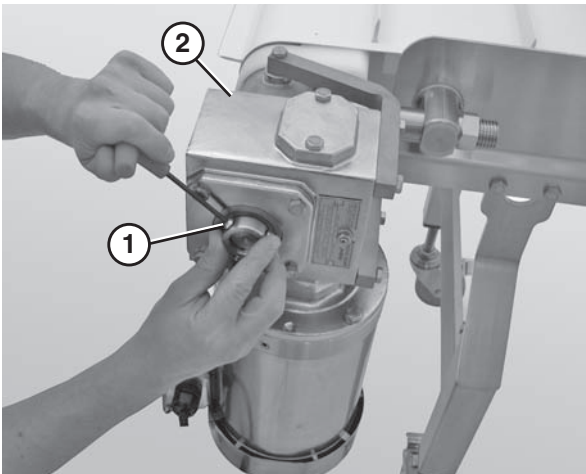

Figure 35
4. Loosen the drive spindle fasteners (Figure 35, item 1) located on the inside and outside of the gearmotor assembly using a 4 mm hex wrench (Figure 35, item 2).